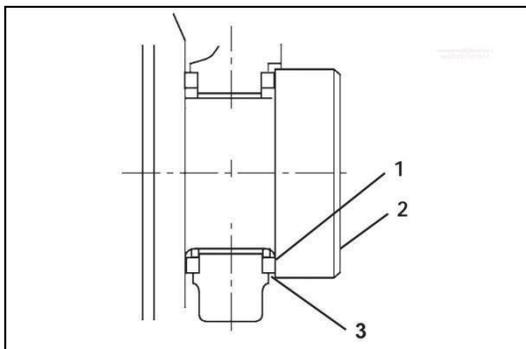

Figure 110
**Method B:** Use a feeler gauge (Figure 110, 3) to measure the clearance (Figure 110, 3) between the thrust bearing (Figure 110, 1) and crankshaft (Figure 110, 2). Record the measurement. See Thrust Bearing specifications for the service limit.